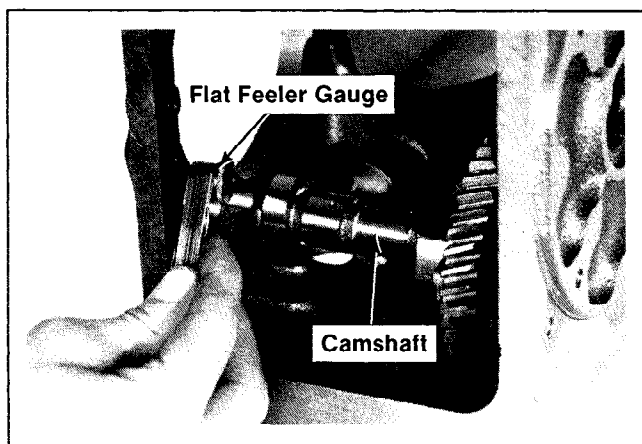

Figure 12-7. Measuring Camshaft End Play.
3. Measure the camshaft end play between the spacer and crankcase boss using a flat feeler gauge. Refer to Figure 12-7. Recommended camshaft end play is .005"/.020" for model K91 and .005"/.010" for all other K-Series models. Add or subtract .005" and/or .010"